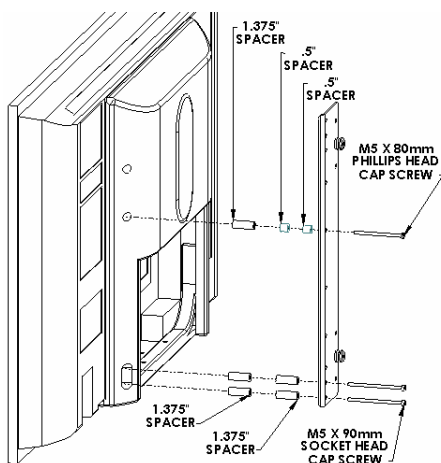
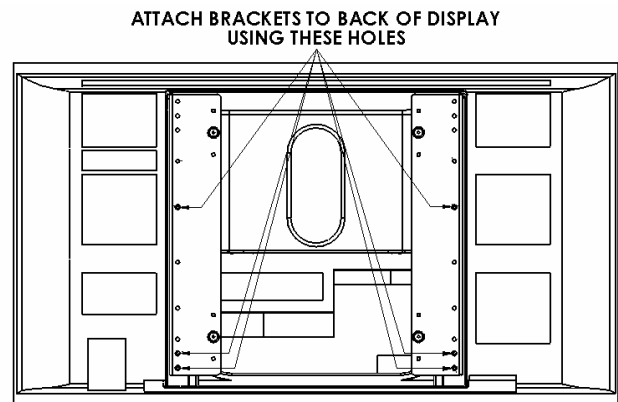

Figure 8
Figure 9
- Attach side bracket to back of display by stacking spacers and using long M5 screws (see Figure 8 & Figure 9). Make sure to use the four M5 x 90mm socket head screws in lower holes. **Proceed to step 7 (page 3).**